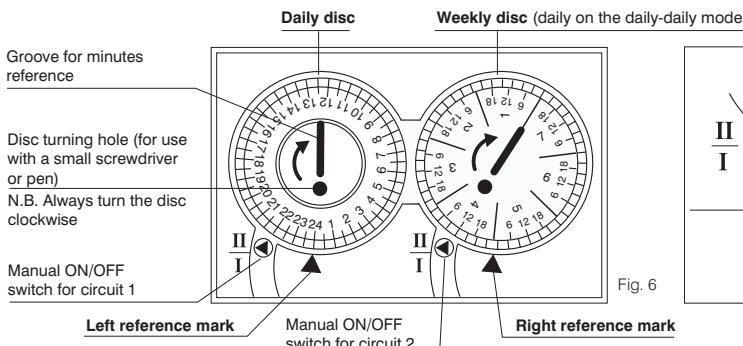

Fig. 6
- Turn the **left hand** (daily) **disc clockwise** until its **reference mark** (triangle) points to 24 (00) hours.
- Turn the **right hand** (weekly) **disc** until its **reference mark** (triangle) points to the 24 (00) hour mark of the correct day (1=Monday, 2=Tuesday etc.). The two discs are now synchronised.
(note: Fig. 6 shows the right hand disc set at 24 (00) hours on day 5 = Friday only by way of example).